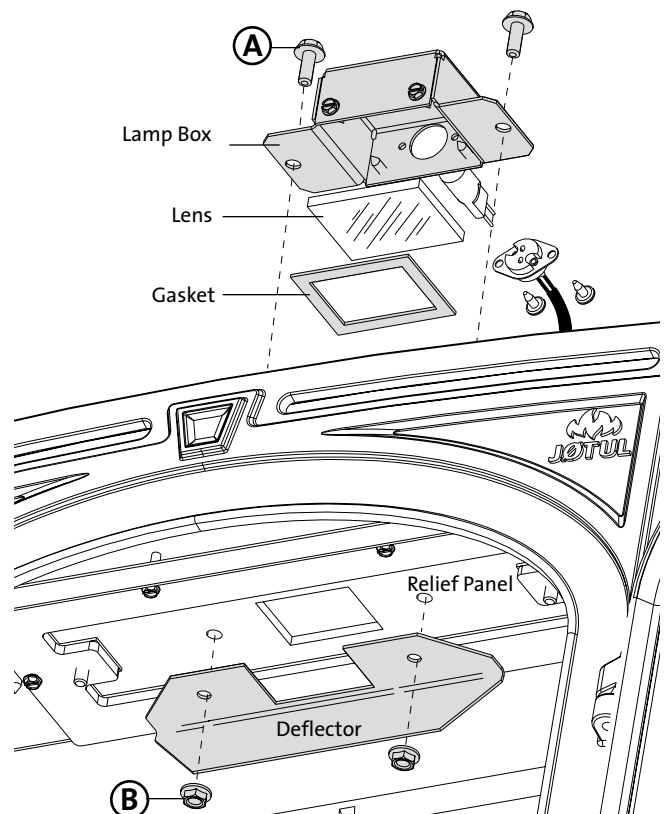
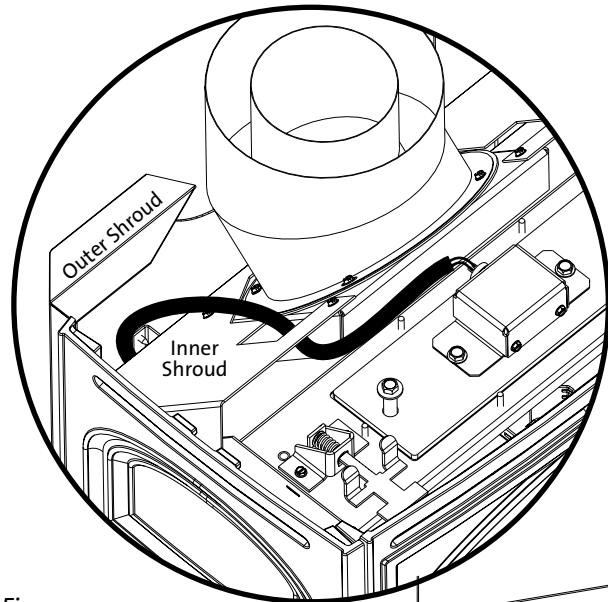

Figure 49. Accent Lamp installation.
Figure 50.a. Detail - Lamp wire harness routing.
2. Remove the two flanged hex head bolts (A), nuts (B) and cover plate from the Relief Panel using a 10 mm socket or wrench. See fig. 49.
3. Position the Gasket, Lens, and Lamp Box on the top of the Relief Panel using the two bolts (A) previously removed.
4. Inside the firebox, attach the Light Deflector plate to the bolts on the underside of the Relief Panel using the nuts (B) previously removed.
5. Route the controls wire harness in between the inner and outer shrouds, and then through the opening in the base plate. Connect the harness to the (L) terminal on the rear of IFC board. See figs. 50 - 50a, page 28.